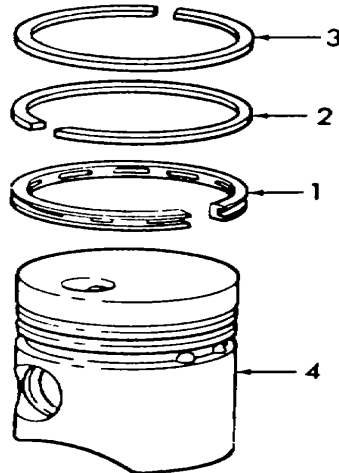

Figure 5-29. Piston Rings Installation.
e. Repair Refer to figure 5-29).
- (1) Install oil control ring (1), compression ring (2), and compression ring (3) on piston (4).
(2) Make sure the piston ring gaps are equally spaced around the piston 120 degrees from each other.